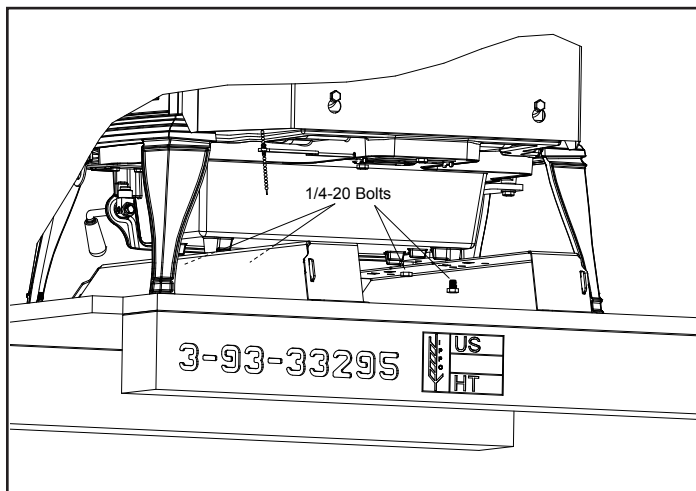

Figure 5.1 - Remove unit from shipping brackets.
Remove the unit from the shipping brackets by removing (2) 1/4-20 hex head bolts from each shipping bracket, leaving brackets attached to the skid. Figure 5.1. (Save the 1/4-20 hex head bolts as they will be needed later to install heat shield.)